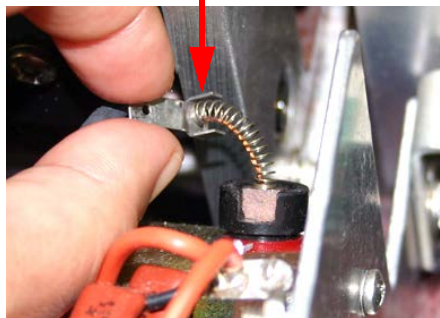

Figure 9-15 Inserting new motor brush
6. Push the spring down into the slot in the motor. You may need to use the edge of the screwdriver to gently press the metal tabs (Figure 9-15) on the spring down into the slot. Ensure that the tabs on the sides of the brush go into the slot. Reinstall the brush retainer, tightening it with the screwdriver (do not overtighten).